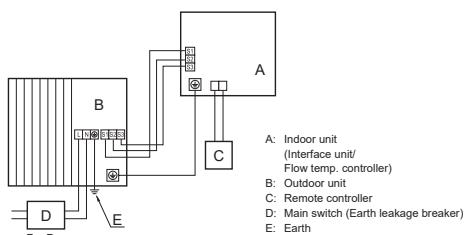
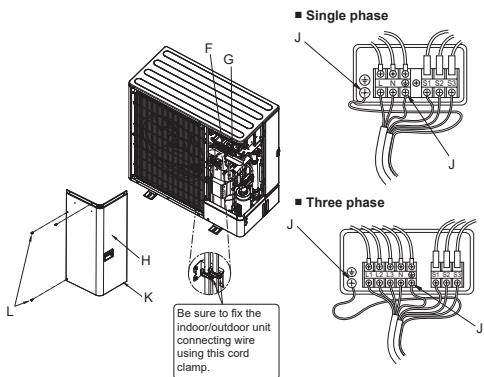

Fig. 7-1
Fig. 7-2
7.1. Outdoor unit (Fig. 7-1, Fig. 7-2)
(1) Remove the service panel.
(2) Wire the cables referring to the Fig. 7-1 and the Fig. 7-2.